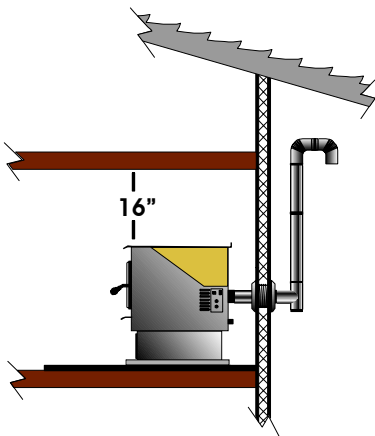

Figure 20
-  **HORIZONTAL, OUT THE WALL, THEN VERTICAL** to a minimum of 5 feet, into a 90-degree elbow and terminating with a 45-degree elbow pointed downward. Figure 20.